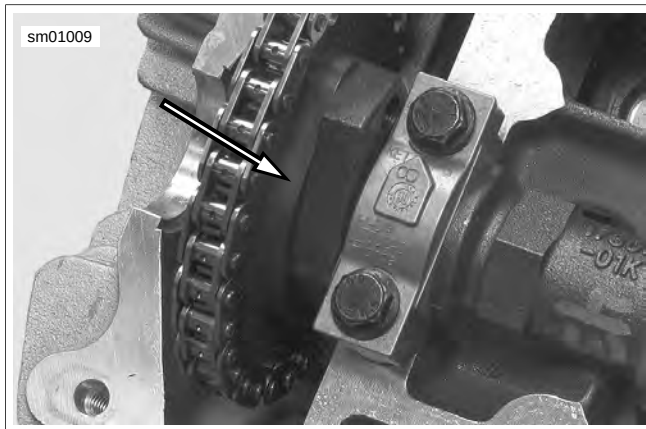

Figure 3-22. Spacer Boss on Inside (rear cylinder cam sprocket)
- See Figure 3-22. The front cylinder cams are identified by the spacer boss location on the outside of the cam sprockets.